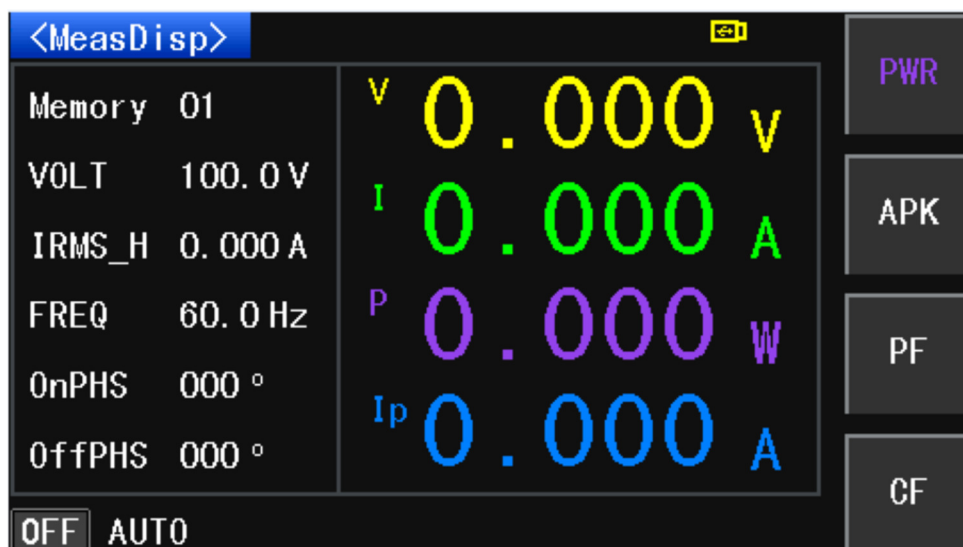

Figure 3-4 MESA3 Key
This soft-key is used to configure the parameters required for MESA3, press this soft-key to select the power (PWR), peak current (APK), power factor (PF), crest factor (CF). Please refer to figure 3-4